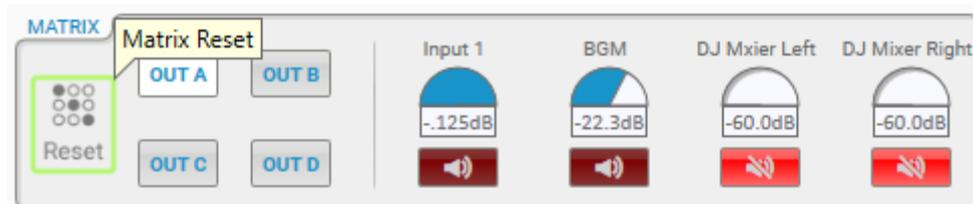

Figure 7 – Screenshot of Matrix Section.
- The Matrix section is made up of the following controls (Figure 7):
- *Output Select Buttons* – Pushing one of these (4) buttons will display the mix of matrix input channels and mute orientation with respect to the matrix output channel which is selected. The choices are matrix output A, B, C & D. Upon start-up **A** output select button is engaged. These buttons work according to interlock logic. Only (1) button can be active at a time.
- *Matrix Reset Button* – This momentary button resets the visible mutes to off and assigns the gain of the corresponding input to output cross-point to 0dBFS. This action simultaneously assigns the gain of the other (3) cross-points to -60dBFS. This action is only applied to the matrix cross-points associated with the matrix output which is currently selected and in view.
- *Matrix Gain* – Each matrix cross-point has a gain associated with it. Only (4) gain knobs are shown at a time. That which is shown is the mix of the (4) matrix inputs to the selected matrix output.
- *Matrix Mute* – Each matrix cross-point has a mute associated with it. The icon change is feedback from the device that the cross-point is muted. That which is shown is the configuration of the mutes for the (4) matrix cross-points indicated by the active Output Select button.